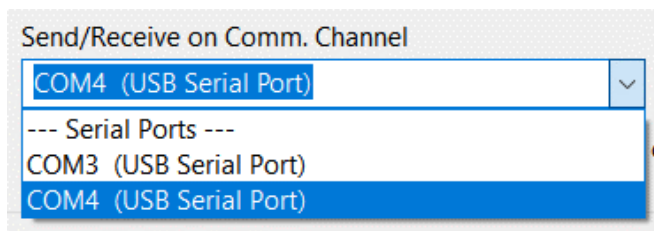

Figure F.12. Send/Receive on Comm. Channel
- d. Select the last USB serial port in the list, as shown in Figure F.12.